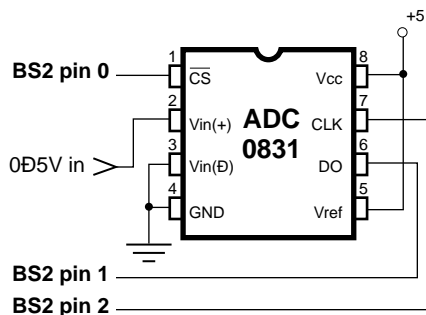

Figure 5. Schematic for ADC0831.BS2.
**Serial ADC with Shiftin.** Figure 5 and listing 2 demonstrate how to use Shiftin to obtain data from an 8-bit serial analog-to-digital converter, the ADC0831.